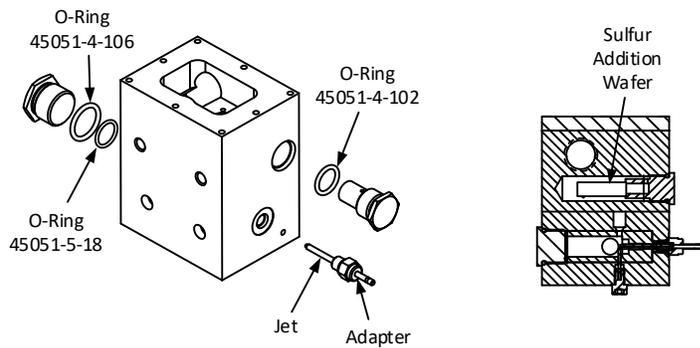

Fig. 8.13. Burner Block Components
8.3.10 Burner block components (see Figure 8.13)